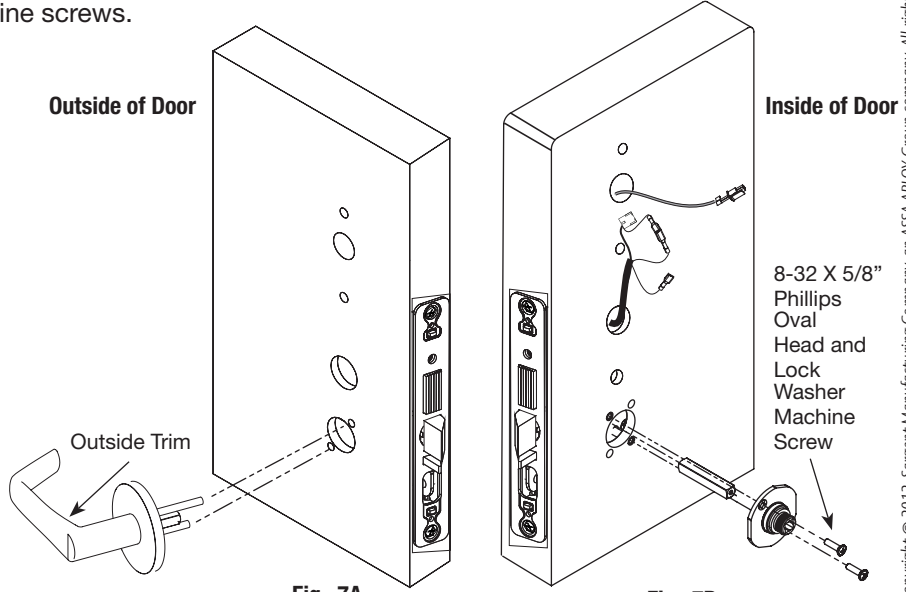

Fig. 7A
1. With outside lever horizontal, insert the mounting post through outside of door and lock body. Make certain the lever spindle is properly engaged inside the lock body (Fig 7A).